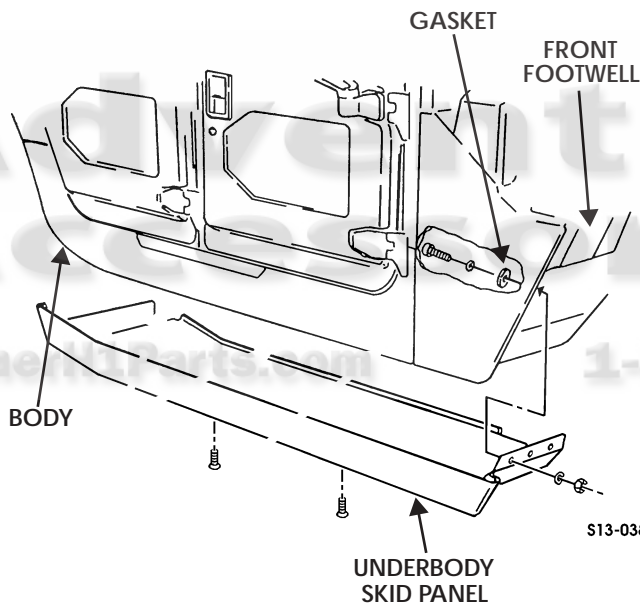

Figure 13-41: Underbody Skid Panel
3. Remove nine hex-head screws securing underbody skid panel to body. Support underbody skid panel with floor jack (Figure 13-41).
3. Secure skid panel to front footwell with three gaskets, washers, capscrews, washers, and nuts. Do not tighten nuts (Figure 13-41).
5. Remove floor jack and secure underbody skid panel to body with nine hex-head screws. Tighten hex-head screws to 37 lb-ft (50 N•m) (Figure 13-41).